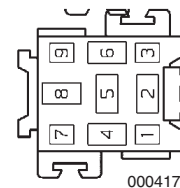

Figure 12-8
12 V is supplied by fuse F3 to terminal 30 (**Figure 12-8, (4)**). An internal connection connects one end of the winding to terminal 30. When the key switch is turned ON, a 12 V signal is sent to ECU terminal 2/7. The ECU then completes the winding ground circuit (terminal 85) through ECU terminal 2/32.